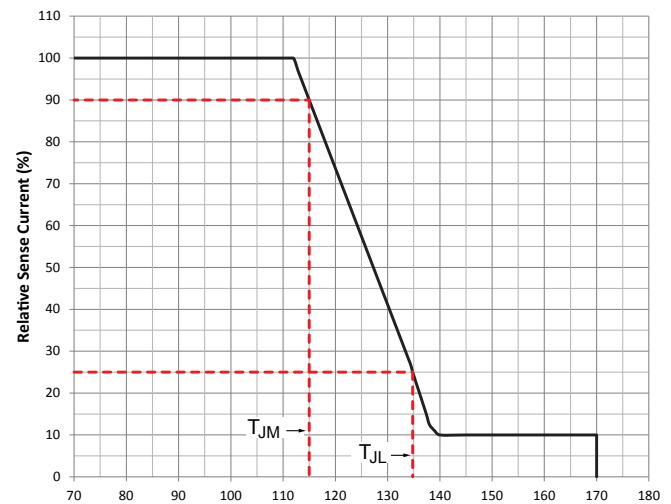

Figure 2. Temperature monitor current reduction.
**Temperature Monitor** A temperature monitor function, included in the A6269, reduces the LED current as the silicon junction temperature of the A6269 increases (see figure 2). By mounting the A6269 on the same thermal substrate as the LEDs, this feature can also be used to limit the dissipation of the LEDs. As the junction temperature of the A6269 increases, the regulated current level is reduced, reducing the dissipated power in the A6269 and in the LEDs. The current is reduced from the 100% level at typically 2.5% per degree Celsius until the point at which the current drops to 25% of the full value, defined at  $T_{JL}$ . Above this temperature the current will continue to reduce at a lower rate until the temperature reaches the overtemperature shutdown threshold temperature,  $T_{JF}$ .